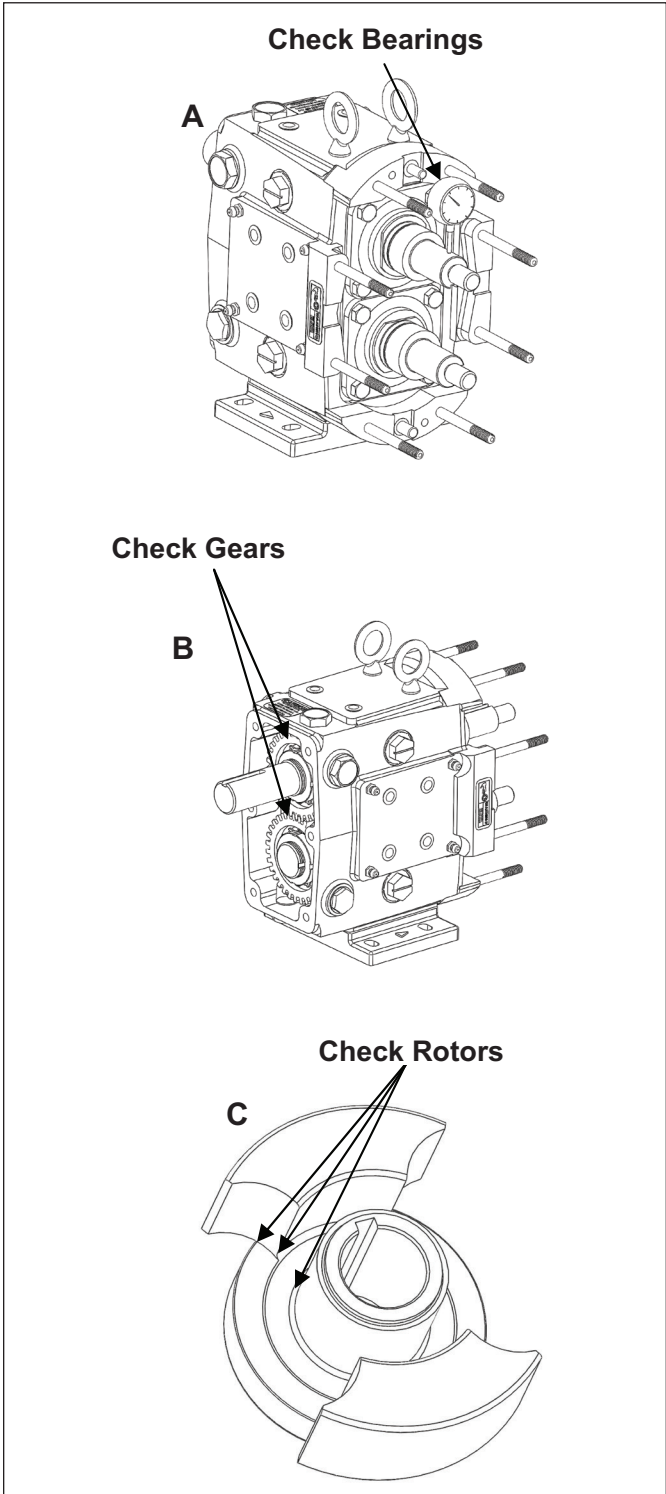

Figure 22. Annual Maintenance Checks
- Check the gear case bearings by measuring the shaft's radial movement with a dial indicator (*Figure 22, A*). If the movement is greater than or equal to the rotor-to-body clearance found on *page 41 (Table 10)* the bearings should be replaced.
- Remove the gear casing cover (see *page 30* for disassembly information) and inspect the gears for wear and damage (*Figure 22, B*). Also check for backlash and looseness.
- Inspect the rotors for signs of wear and stress cracks around the areas defined in *Figure 22, C*. Replace, if necessary.